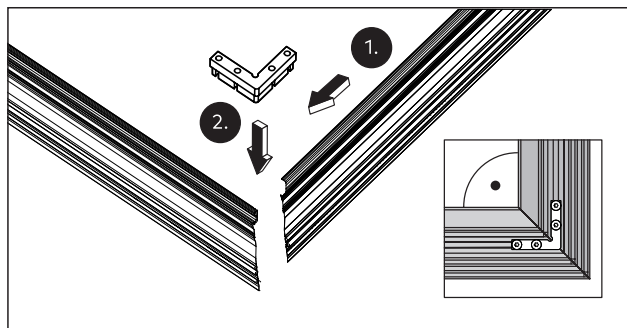

Fig. 26 Place the brackets in the base profile for the door frame
1. Prepare the base profile for the door frame in the 90° bracket for pre-mounting (Fig. 26).